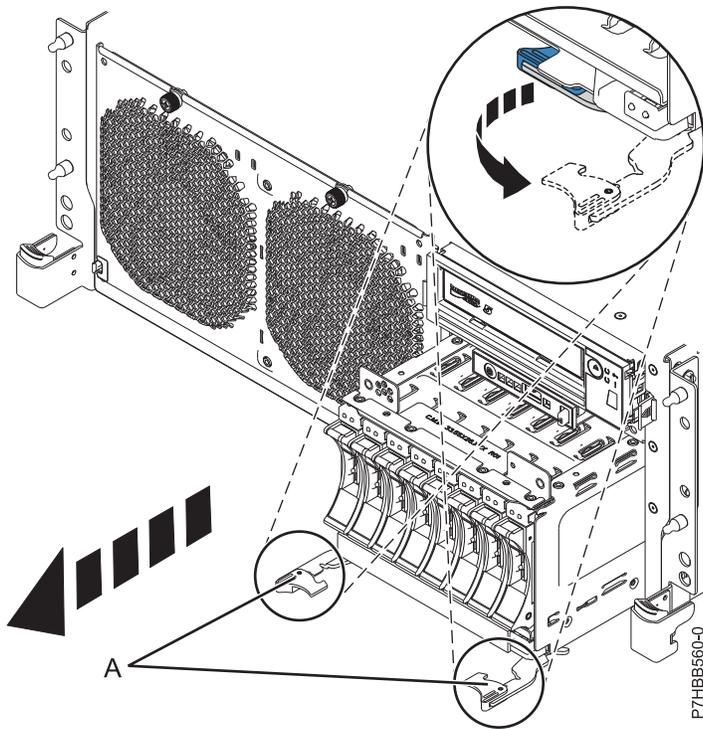
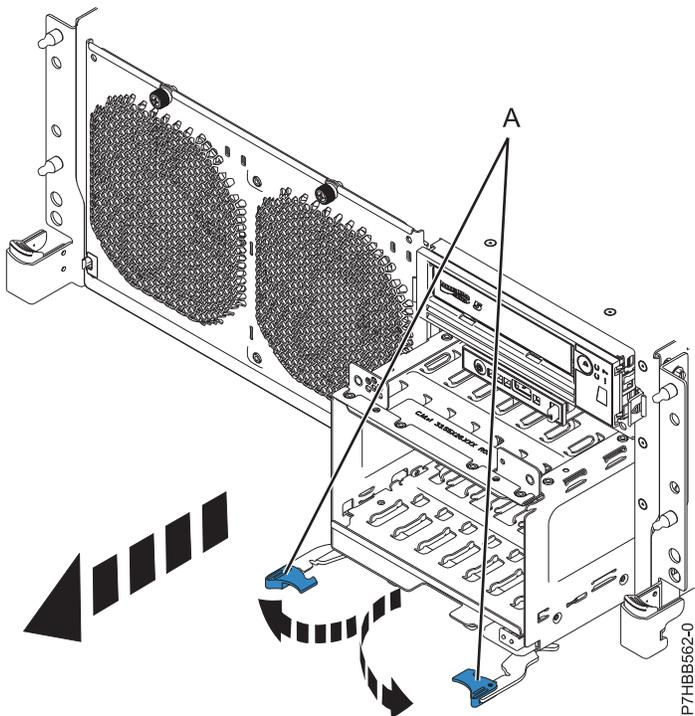

Figure 13. Removing the backplane that is populated with disk drives
Figure 14. Removing the backplane that is not populated disk drives
13. Unlock the disk drive backplane by pulling the handles (A) open from the center of the backplane as shown in Figure 13 on page 28 and Figure 14 on page 28.